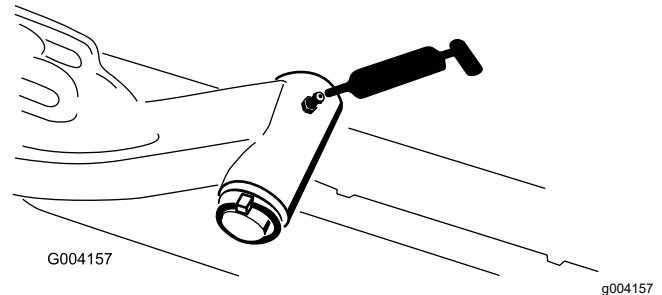

Figure 109
- Lift-arm pivot shaft (1 each) (Figure 109)